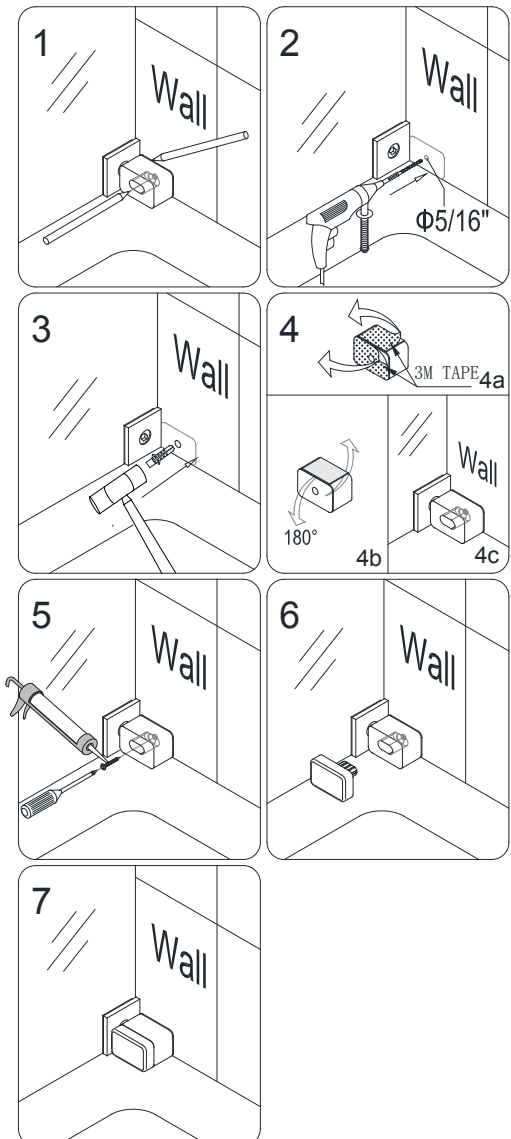

Fig 26
26. To install the **Bumper (#30) with the screw method, position the bumper (#30)** onto the threshold and against the wall on the stationary panel side of the installation. **(For 72" model, this will be the side of the opening with the large stationary panel).** and mark the position of the hole onto the wall. Drill a 5/16" hole and insert the anchor (###). Remove the 3M Tape and position the **Bumper (#30)** onto the threshold against the **Wall Bracket (#19)** and attach using the **ST4.2 x 40 Countersunk screw.** **(Fig 26)**
27. Apply a good quality mildew-resistant silicone along the interior perimeter where the glass meets the wall and threshold and also along the **Anti-Splash Guard (#15)**. (Fig 26)